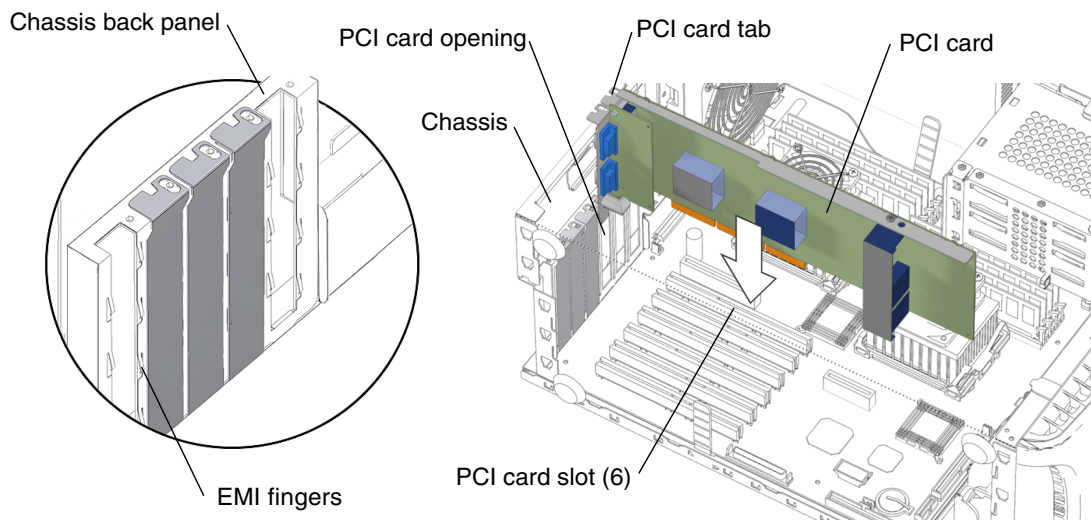

FIGURE 11-32 Inserting a PCI card
7. Align the PCI card with the selected PCI card slot (FIGURE 11-32).